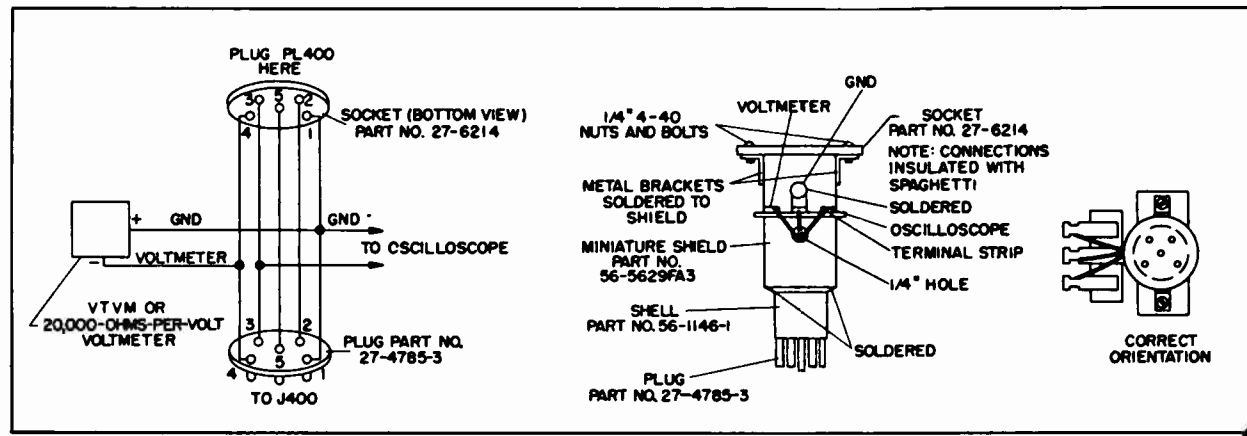

Figure 3. Sound I-F Alignment Jig
1. Remove the 1st v-i-f tube, and connect a v.t.v.m. or a 20,000-ohms-per-volt voltmeter to the sound i-f alignment jig (figure 3). Adjust the VOLUME control for moderate speaker output.